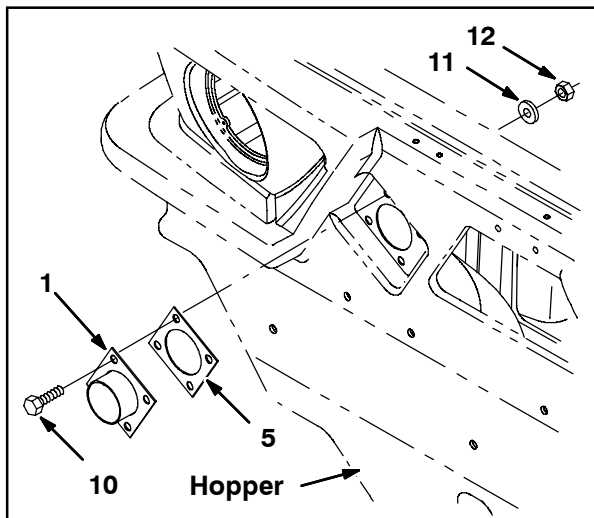

FIG. 5
8. Use four hex screws (10), four flat washers (11), and four hex nuts (12) to install the vacuum wand adapter (1) and vacuum wand seal (1) onto the hopper. Refer to Fig. 5.